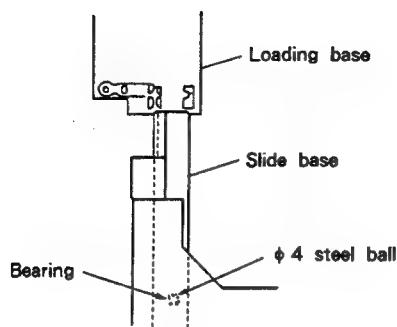

Fig. 7-10
<p>Re-mount the disc tray according to the following procedure when the grating adjustment is complete.</p> <ol style="list-style-type: none"> <li>1. Remove the disc and the spacer.</li> <li>2. While lifting the clamp holder [marked ② in Fig. 7-5] with the right hand, hold the tray in the left hand as indicated by ③ and slide the slide base into the hard resin fittings on the loading base as shown in Fig. 7-10 to re-insert the disc tray.</li> <li>At this time, be sure to hold the steel ball in place with the index finger of the left hand. Also, be careful that the front panel is not damaged by the slide base and bearing of the steel ball's bearing (in the slide base) coming into contact with the panel.</li> <li>3. Insert the slide base so that it fits into the two hard resin fittings at the rear of the loading base (see Fig. 7-11).</li> <li>4. Insert the tray tightly.</li> </ol>